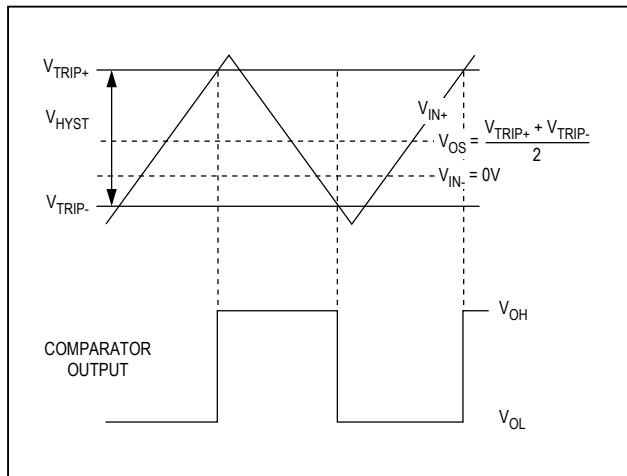

Figure 1. Input and Output Waveform, Noninverting Input Varied
**Note 2:** The input-referred trip points are the extremities of the differential input voltage required to make the comparator output change state. The difference between the upper and lower trip points is equal to the width of the input-referred hysteresis zone (see Figure 1).
**Note 3:** VOS is defined as the center of the input-referred hysteresis zone (see Figure 1).
The hysteresis in a comparator creates two trip points: one for the rising input voltage and one for the falling input voltage (Figure 1). The difference between the trip points is the hysteresis. When the comparator's input voltages are equal, the hysteresis effectively causes one comparator input voltage to move quickly past the other, thus taking the input out of the region where oscillation occurs. Standard comparators require hysteresis to be added with external resistors. The MAX941/MAX942/MAX944's
Figure 1 illustrates the case where IN- is fixed and IN+ is varied. If the inputs were reversed, the figure would look the same, except the output would be inverted.